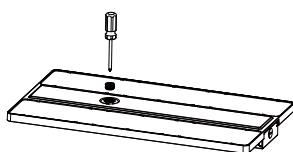

Figure 9
Step1. Use a screwdriver to remove the 1/2 plug from the sensor; (Figure 9)